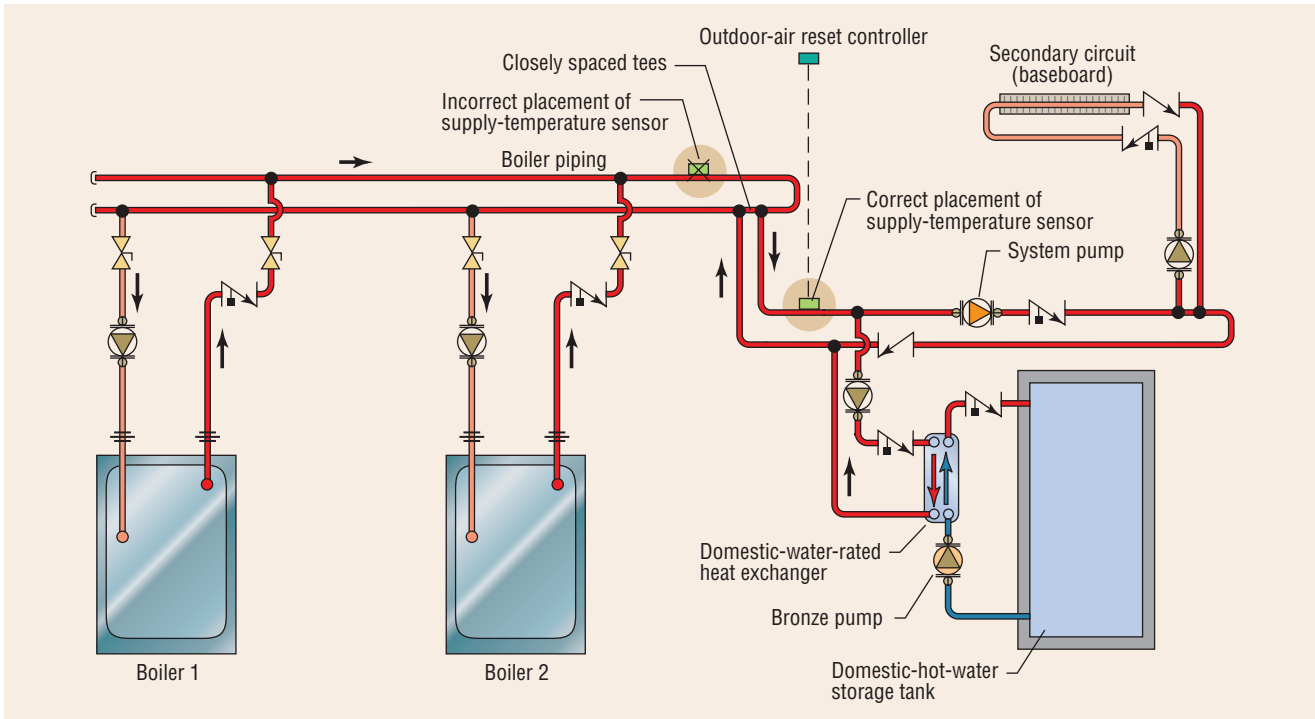

FIGURE 5. Correct and incorrect supply-temperature-sensor placement.
Figure 5 shows a boiler supply sensor improperly located on boiler manifold piping. Boiler pumps normally operate only when a call for heating exists. In this sensor placement, when boiler-manifold temperature is satisfied, boiler circulators are off, but a load still may exist in the distribution system. In this case, residual boiler-manifold heat gets trapped and will not get to the distribution system. Also, with an improperly placed sensor, boilers will not fire when heat is needed in the system. A boiler supply sensor should be placed in a position of constant flow to maximize use of boiler heat into the system and to ensure heat is delivered to a load when required.
- Use parallel primary-secondary or “split-primary” piping when the water-supply temperatures of secondary circuits are similar (Figure 5).
appropriate boiler-sizing strategy to reduce system cost. For applications with a significant domestic-water load, consider a dedicated boiler, or install a brazed-plate heat exchanger between the boiler and indirect tank to increase heat-exchange surface area, reduce water temperature of water returning to the boiler, and increase system efficiency (Figure 5).